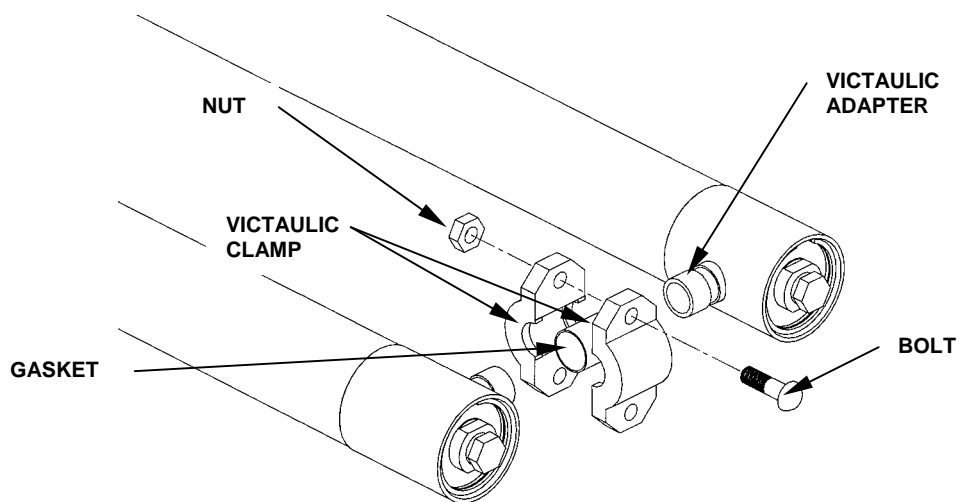

Figure 1. Pressure Vessel Clamp Arrangement.
1. Remove two nuts and bolts on Victaulic clamp. See Figure 1.